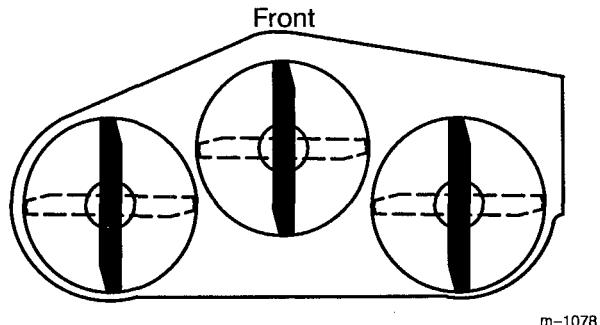

**Figure 7**
1. Inspect the cutting edges (Fig 7). If the edges are not sharp or have nicks, remove and sharpen the blades. Refer to Sharpening the Blades on page 9.
2. Inspect the blades, especially the curved area (Fig. 7). If you notice any damage, wear, or a slot forming in this area (item 3 in Fig. 7), immediately install a new blade.